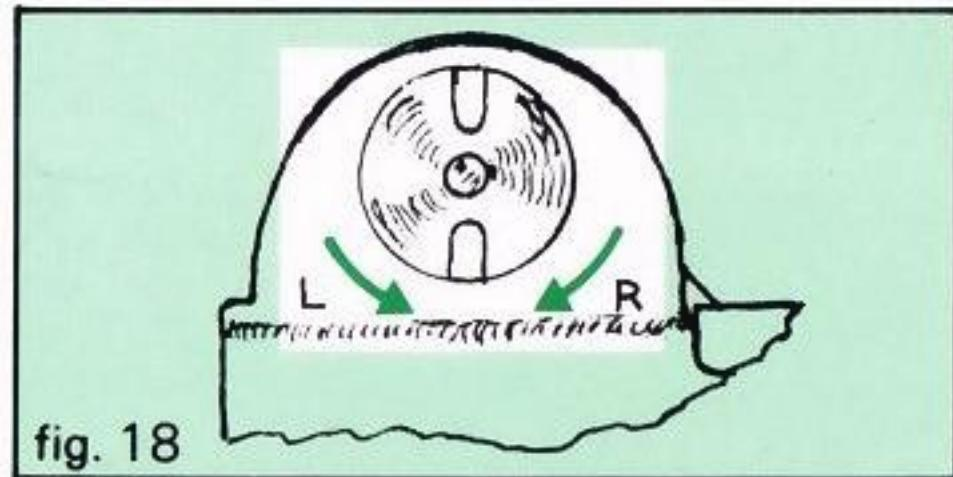

fig. 18
2. Rear Sight (adjusts windage). To move the impact point of the bullet to the right, rotate the rear sight and adjustment screw to the right. (clockwise). One click will move the impact point of the bullet to the right 1 cm. (0.4") at 25 m (27.5 yds.) (fig.18).